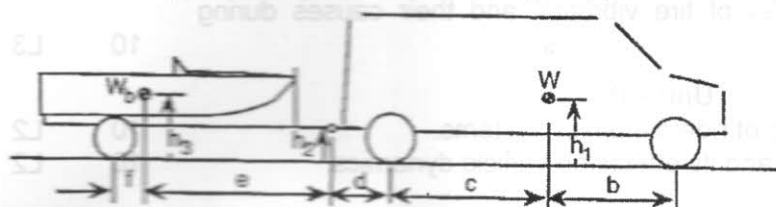

Figure. 1 Vehicle and Boat Trailer Combination
b) You are planning to buy a new mini-van to pull your boat trailer (see Figure.1) out to those long weekends at the lake. Although you like the new front-wheel-drive (FWD) vans available, you are not sure a FWD will be able to pull the boat up out of the water on some of the steep access ramps you must use.